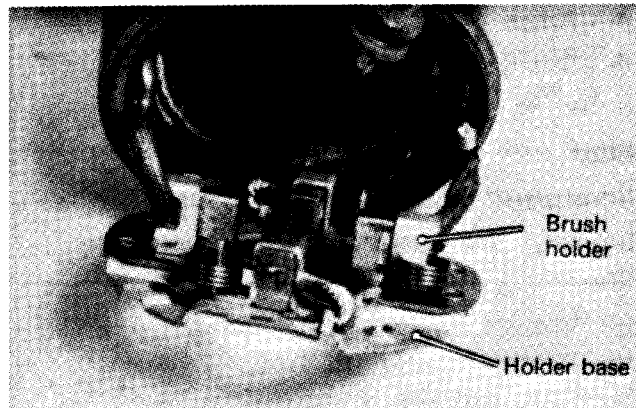

Figure 48
13. Check the brushes (Fig. 48). Replace if worn beyond the service limit. Check the brush spring tension. Replace the springs if tension is less than the service limit. Check for insulation between the positive brush holder and holder base. If poorly insulated, replace the holder assembly. Check the brush holders for proper staking.